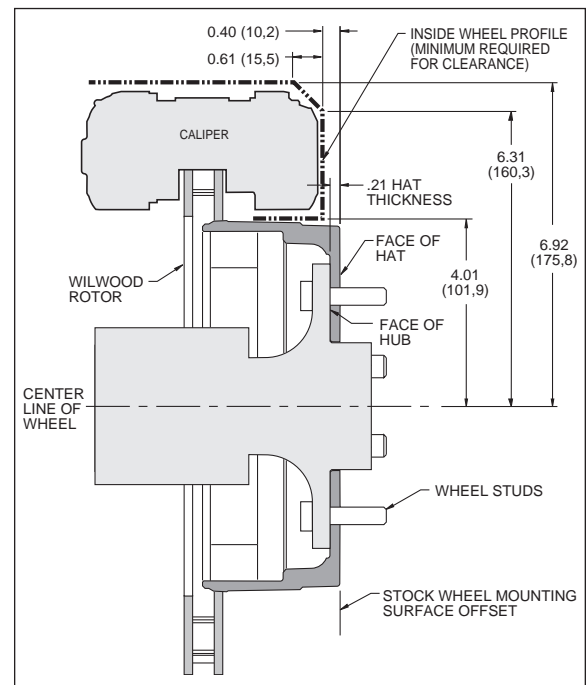
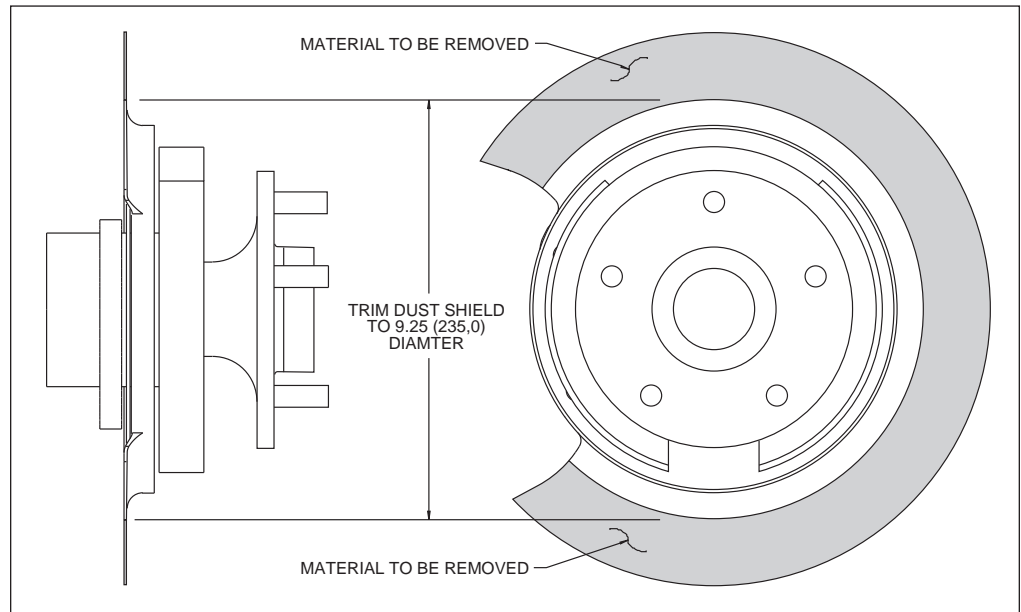

Figure 2. Wheel Clearance Diagram
Figure 3. Dust Shield Modifications
- Please be aware there are modifications necessary to the stock hub/caliper mounting bracket - dust shield assembly, Figure 3. Also, review the wheel clearance diagram, Figure 2, to verify there is adequate clearance with the wheels you will be using with this installation.
- Verify your wheel clearance using Figure 2.
- These modifications should be performed by a qualified machinist. Refer to Figure 3, next page. Only one view of the dust shield is shown, but the modifications need to be performed on both rear axles.